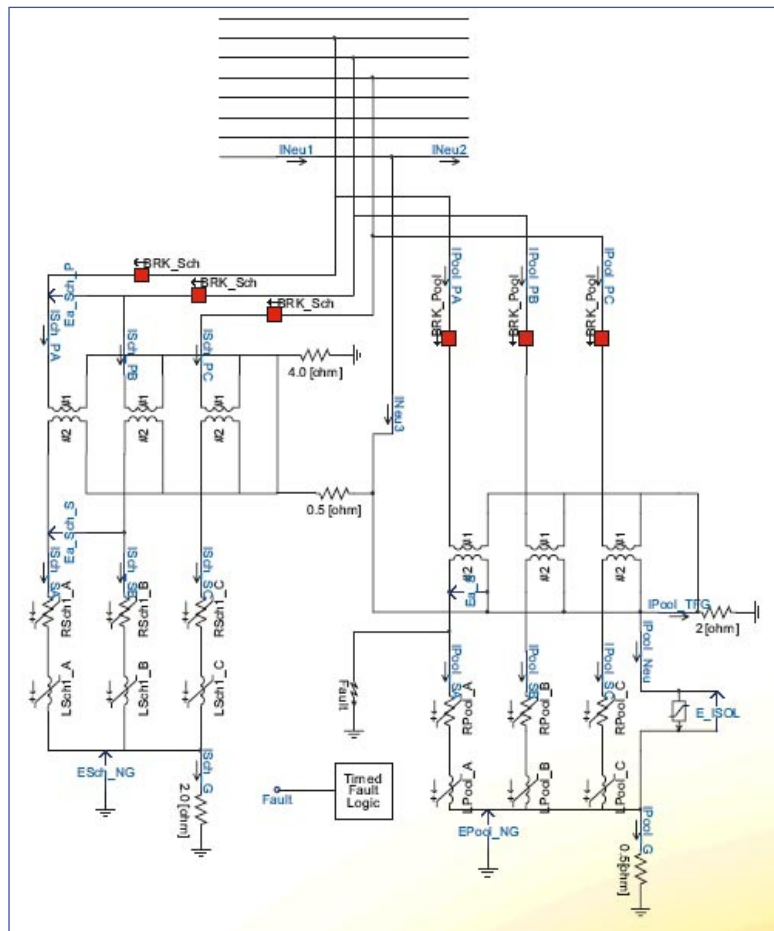

Figure 2: Part of the system model with the saturable reactor in place.
• **Stage 2** - It was determined during the investigation, that the system neutral carries a high amount of harmonic current (3rd harmonic and also other odd harmonics, especially 5th and 9th harmonics). It was assumed that the high harmonic content is due to the non-linear loads, such as power supplies, lighting (CFL lamps) and dimmer circuits. Single-phase, full-wave rectifier circuits were used to model the injection of harmonics to the system. Variable loads (inductors and resistors) were used to adjust the feeder currents until the values were matched with the measured currents. The system was fine tuned until proper load flow was achieved, including the measured stray voltage, ground and neutral currents at the pool (Figure 2 - system model).